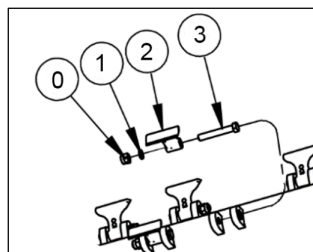

Figure 19
Hammer blades replacement steps (See **Figure 19**):
4. Install blade with bolt, washers, spring washer and locknut, refer to **Figure 19**.